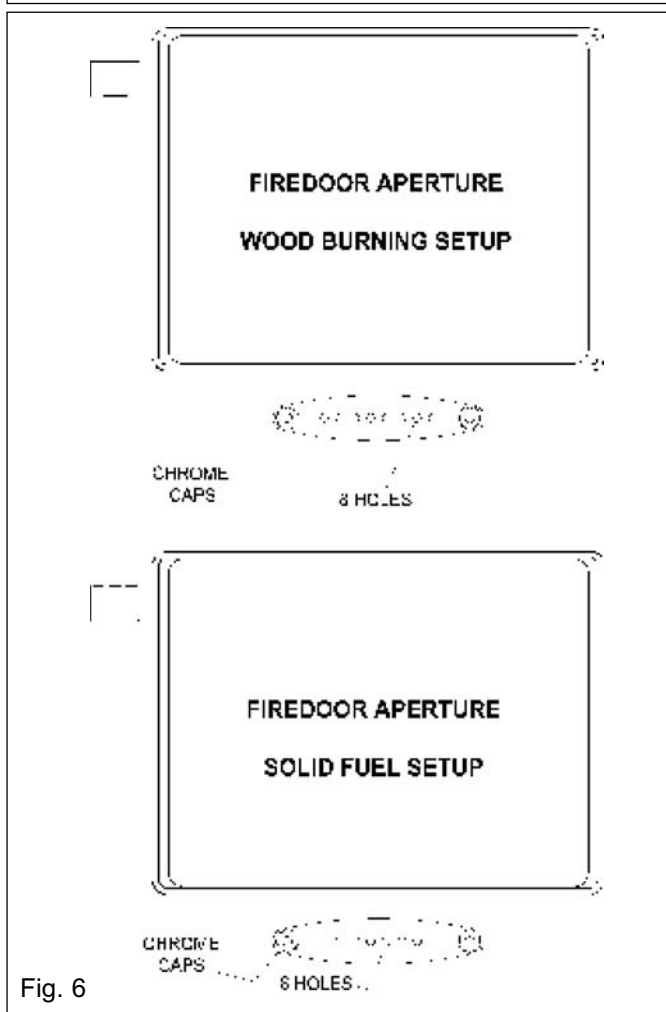

Fig. 6
1. Engage the curved end of the grate assembly removal tool, within the groove in the centre of the bottomgrate support, (See Fig. 6).